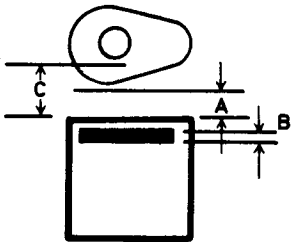

Fig B3.3
- ii. Refer to Fig B3.3. Call the measured clearance A, the shim thickness B and the required clearance C.